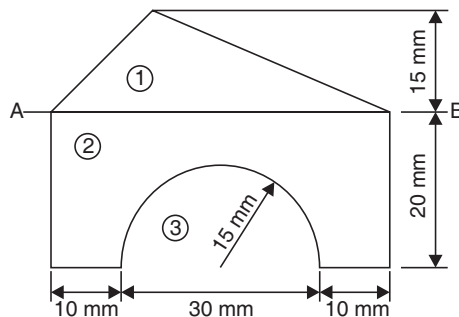

Fig. 5.26
**Example 5.7.** Find the moment of inertia and radius of gyration of the area shown in Fig. 5.26 about the axis  $AB$ .